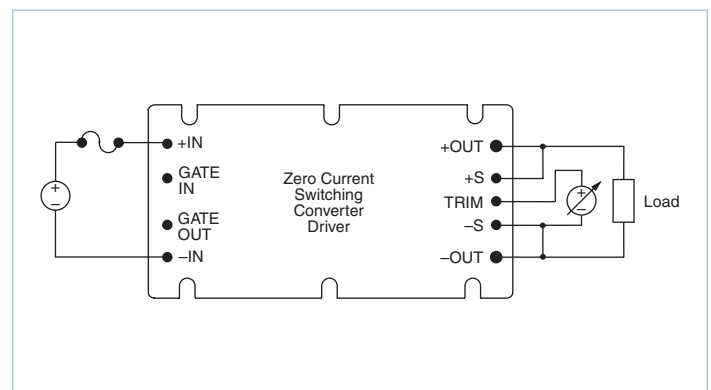

Figure 7.2 — Output voltage programming
**Output Voltage Programming:** (Figure 7.2) Consult the Vicor Applications Engineering Department before attempting large signal applications at high repetition rates due to ripple current considerations with the internal output capacitors. This applies to VI-/MI-200, VI-/MI-J00, ComPAC / MI-ComPAC, FlatPAC and MegaMod / MI-MegaMod Family modules.